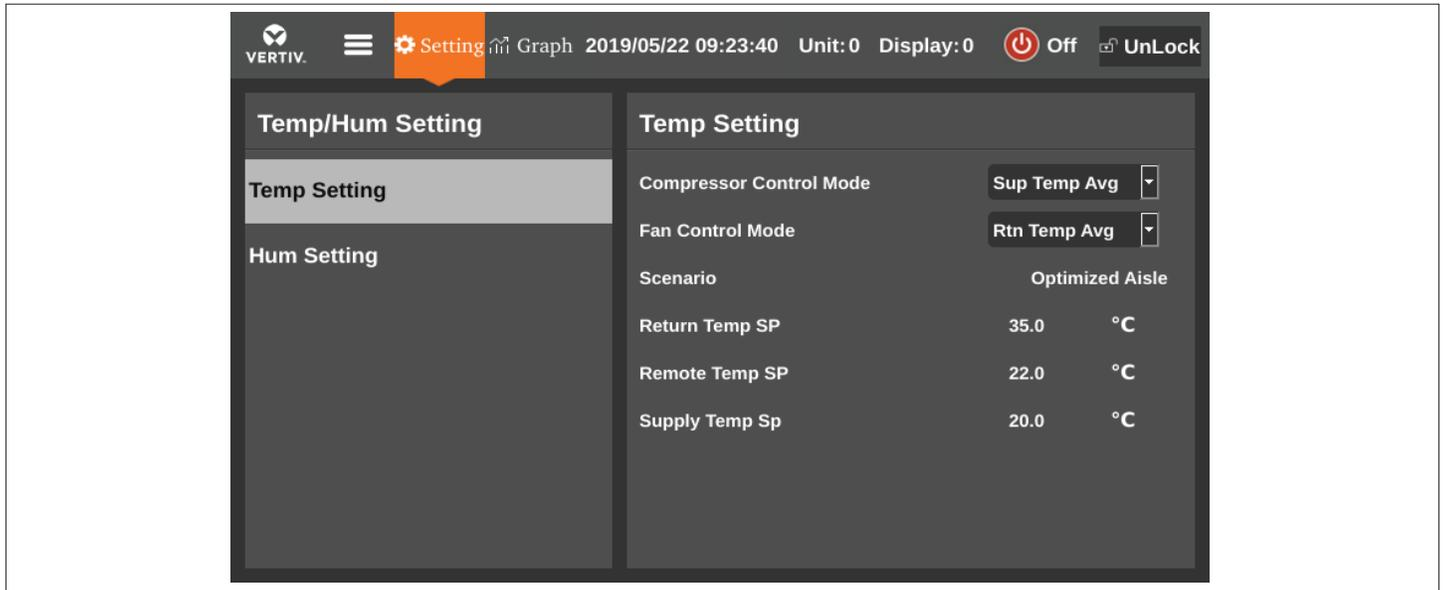

Figure 3-11 Temperature Setting
1. Temperature Setting item, press the position number, the interface appears as shown in Figure 3-11.